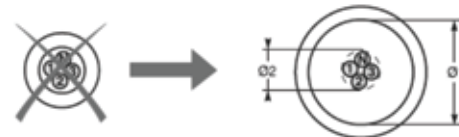

Fig. 5 $\phi 1 \geq \phi 2$
4. As a rule, select a toroid that has an inside diameter which is twice that or greater than the outsider diameter of the cable(s) to be passed through (see Fig. 5)